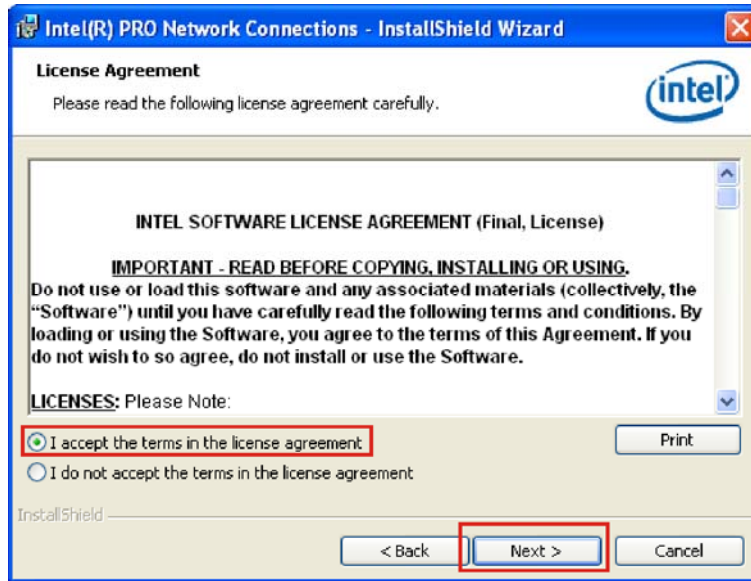

Figure 7-17: LAN Driver License Agreement
Step 6: The license agreement appears (**Figure 7-17**).